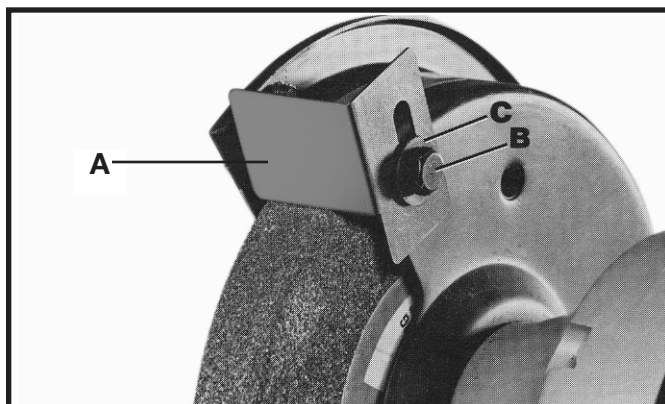

Fig. 3
The spark guard (A) Fig. 3, is to be mounted to the side of each wheel guard, using the 1/4 inch-long screw (B) and washer (C) as shown. The spark guard (A) should be adjusted as close as possible to the grinding wheel so that sparks never strike the operator's hand. As the wheels wear down the spark guard (A) should be adjusted accordingly.